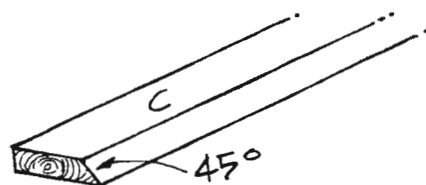
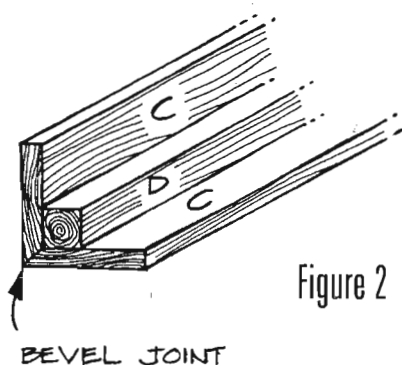

Figure 1
Figure 2
1. Cut eight leg pieces (C) from 1 x 4 pine, each 22-1/2 inches long. Then set your saw blade to cut 45 degrees off vertical, and bevel one 22-1/2-inch-long edge of each of the legs (C) as shown in *Figure 1*.
2. Cut four short leg reinforcements (D) from 2 x 2 pine, each 8-1/2 inches long.
with glue, place two leg pieces (C) together, joining the bevels. Then attach one short leg reinforcement (D) to the inside of the beveled joint. Position the leg reinforcement (D) flush with the ends of the legs (C), as shown in *Figure 2*. Use glue and 2-inch-long screws for this assembly. Drive three screws into each of the two leg pieces (C).